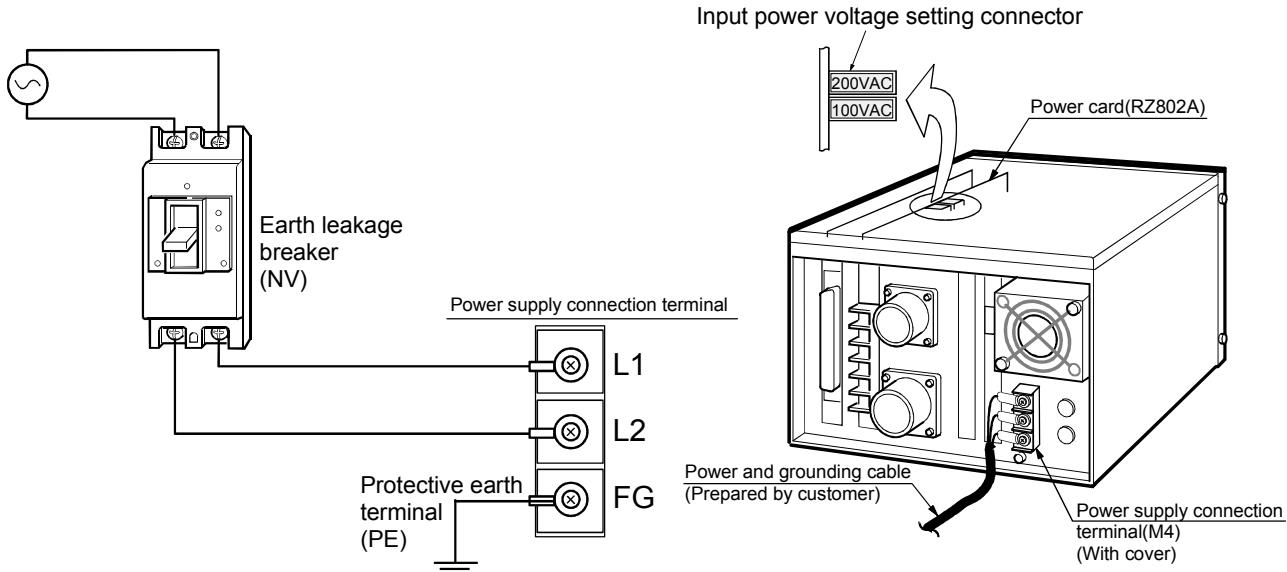

Fig.2-4 : Connecting the power cable and grounding cable
- 2) Set the input power voltage setting connector on the power card (RZ802A: refer to Fig. 2-4) in the controller as follows.
Insert the "input power voltage setting connector" into the connector indicated as 200VAC (CON200V: refer to Fig. 2-4) on the power card (RZ802A).
Insert the "input power voltage setting connector" into the connector indicated as 100VAC (CON100V: refer to Fig. 2-4) on the power card (RZ802A).